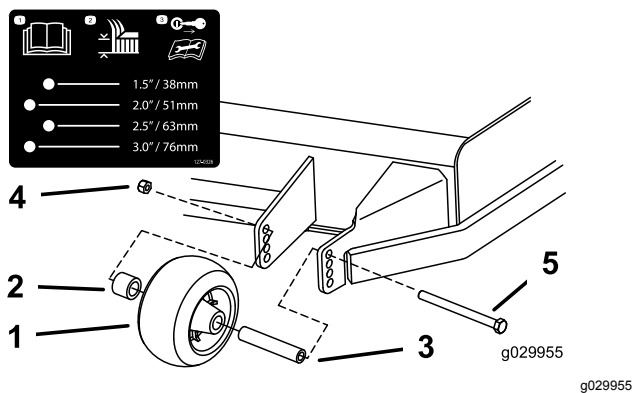

Figure 30
- 3. Adjust the anti-scalp rollers as shown in Figure 30.